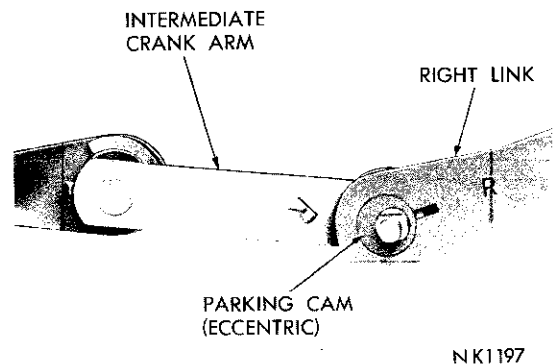

Fig. 5—Link Arm Installed
- (3) Install the link arm with the stop projection on the link arm toward the cam assembly. Install the spring washer, convex surface toward the cam assembly.
- (4) Install the retaining bolt and nut (Fig. 5).
- (5) Assemble the left link and cam assembly in the same manner locking in place with a clip.